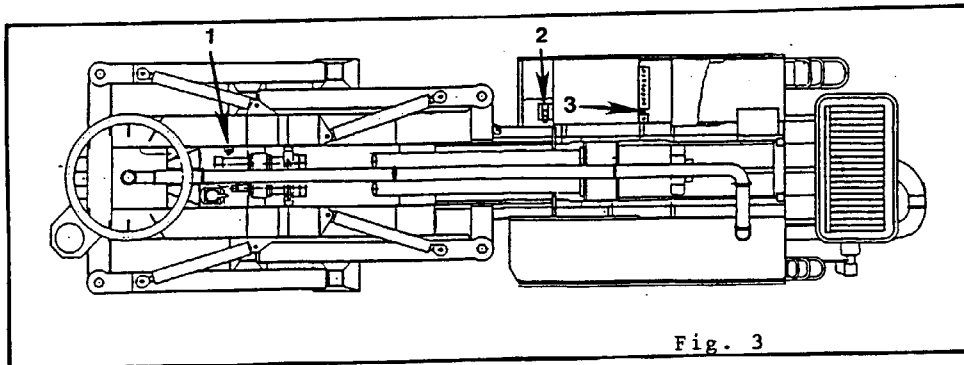

Fig. 3
A. There are three different relief valves for the boom circuit on the 42 lightweights. (see fig. 3) In order to help you understand this system better let's go through the functions of each before we actually reset anything. They are numbered 1 thru 3.